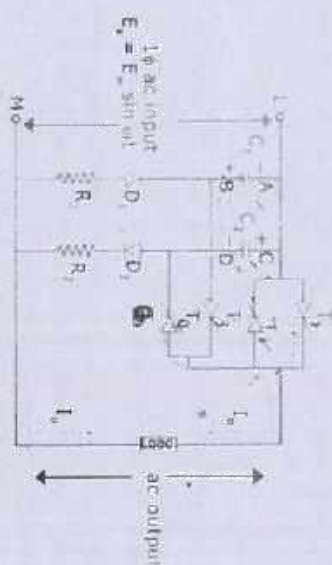

Figure 4.24(a) A.C. Chopper circuit diagram
**Circuit description:** Its circuit diagram is shown in fig. 4.24(a).